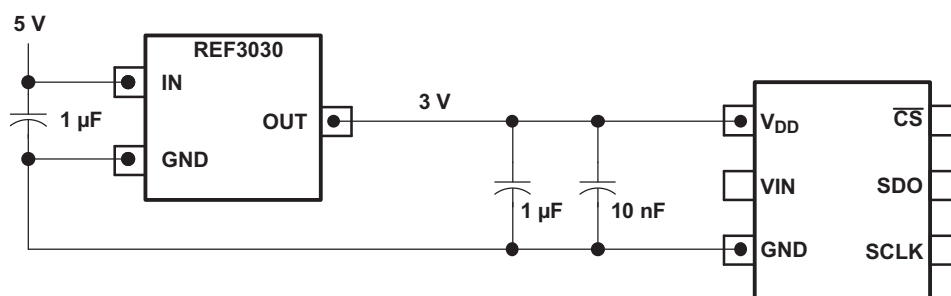

Figure 41. Using the REF3030 Reference
- A reference output from a low drift and low dropout reference voltage generator like REF3030 or REF3130. The ADS7887 and ADS7888 can operate off a wide range of supply voltages. The actual choice of the reference voltage generator would depend upon the system. Figure 41 shows one possible application circuit.